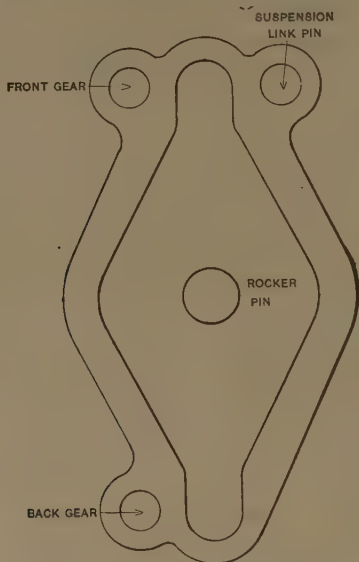

Fig. 154. Hook Valve Motion.
A. The combined hook, Fig. 154, being two V hooks joined at the points.